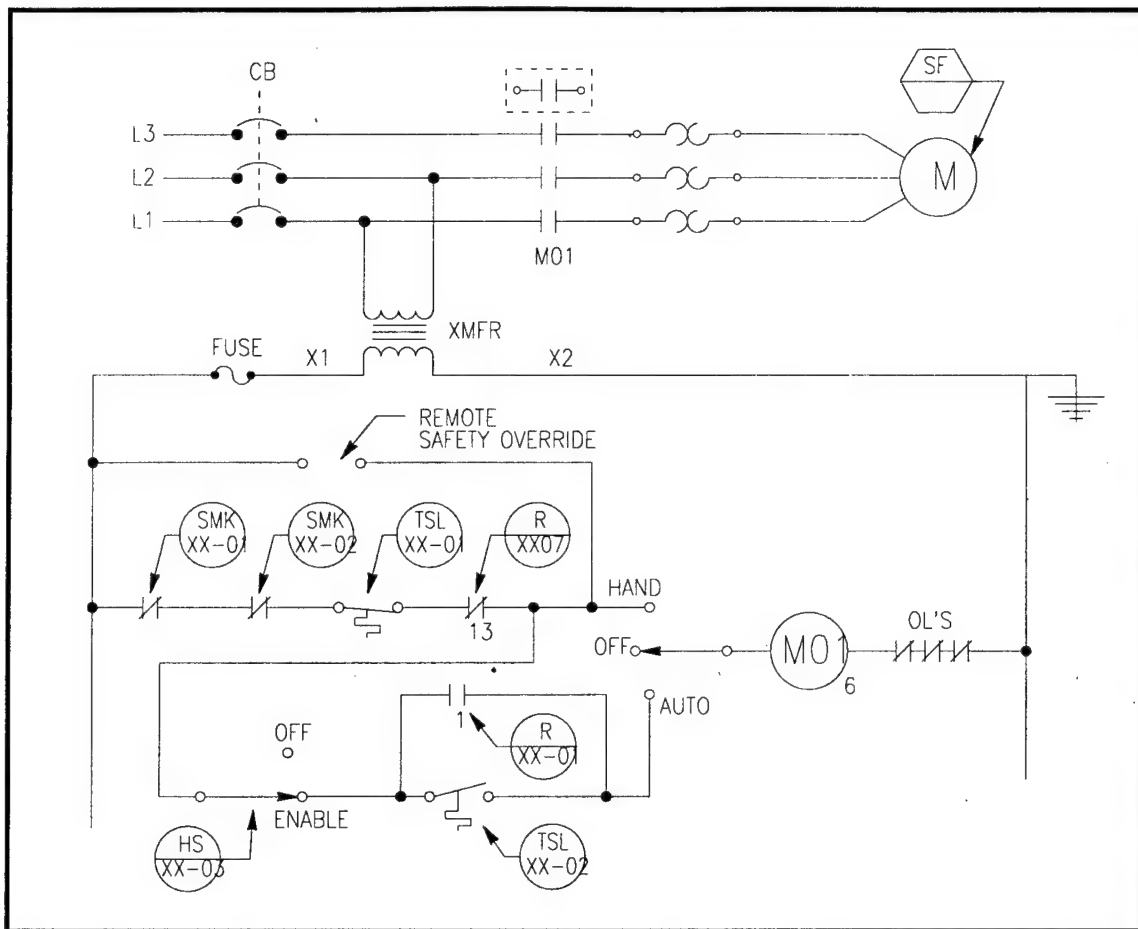

Figure 7. Typical ladder diagram for control system fan starter circuit.
The *Ladder Diagram* is used to show the operating sequence and control modes of the various control devices, safeties, and interlocks. The example ladder diagrams shown in Figures 6 and 7 are for a heating and ventilating control system. The ladder diagram in Figure 6 describes the control logic within the system control panel. The ladder diagram in Figure 7 shows the logic of the supply fan starter circuit. Ladder diagrams are read from top to bottom and left to right. Each line, or "rung" of the ladder diagram has a reference number. The first rung (labeled 0) provides power to the time clock (CLK). Note that the bubble for the clock has a bisecting line through it, which indicates that it is located in the control panel.
3. **Enable/Off.** When "enable" is pushed, the control system (hardware) has been enabled, or permitted, to energize the fan motor starter. When "Off" is pushed the fan cannot be started by the control system. In the Off position, the fan will start only in the HAND mode from the H-O-A switch. The Enable/Off switch is shown as hand switch (HS XX-03) on line 104 of the ladder diagram in Figure 7.